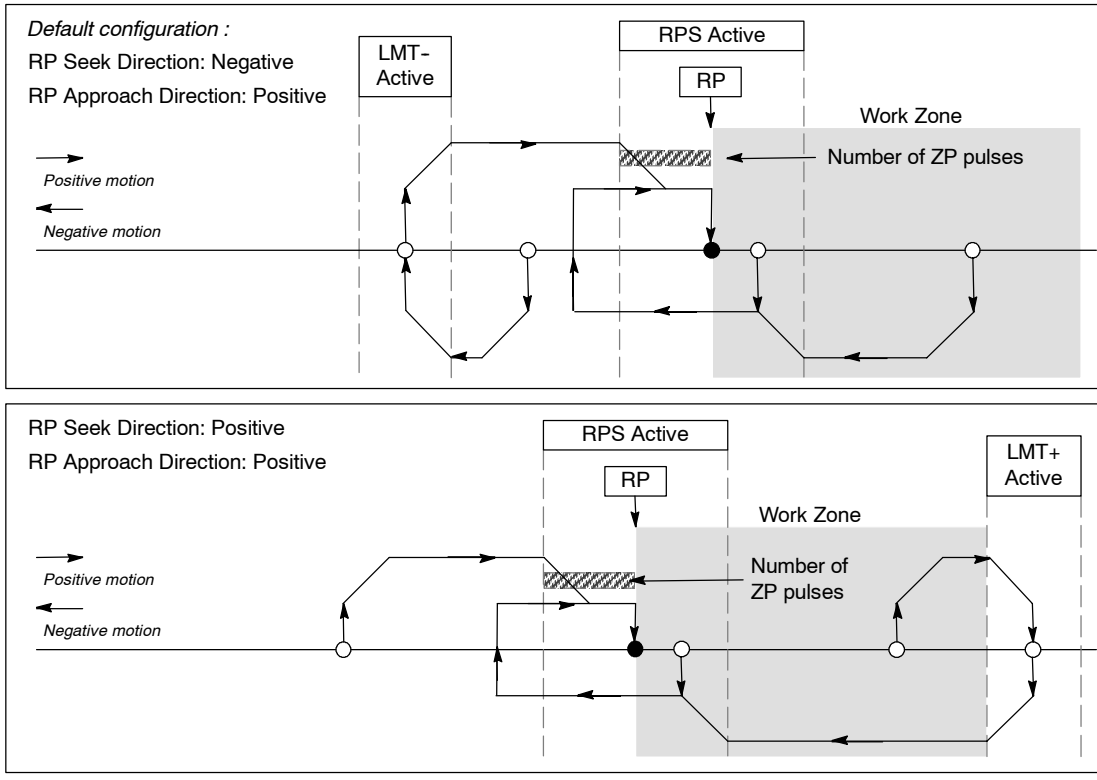

Figure 9-17 RP Seek: Mode 4
- Figure 9-17 shows two of the options for RP seek mode 4. This mode locates the RP a specified number of zero pulses (ZP) within the active region of the RPS input.